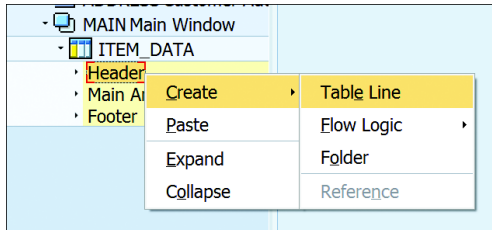

Figure 18.46 Create Table Line
1. Right-click the relevant area (HEADER, MAIN AREA, or FOOTER) and select CREATE • TABLE LINE, as shown in Figure 18.46.